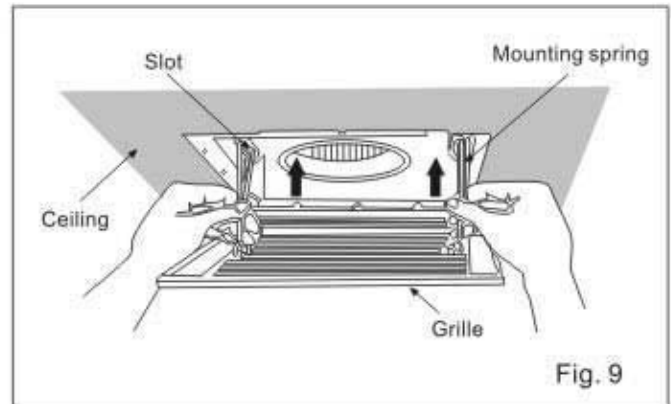

Fig. 9
- Insert mounting springs into slots as shown and mount grille to fan body. (Fig.9)
5. Mount the grille to fan body. (Fig.9 of page 8)